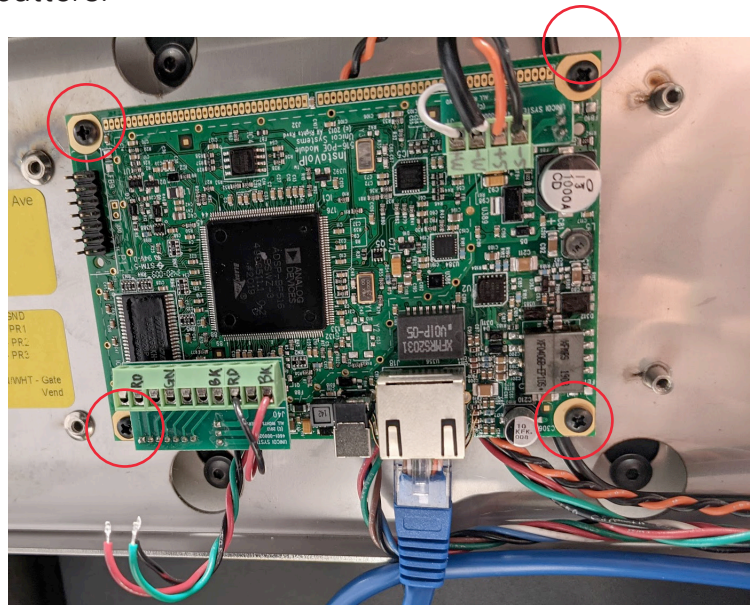
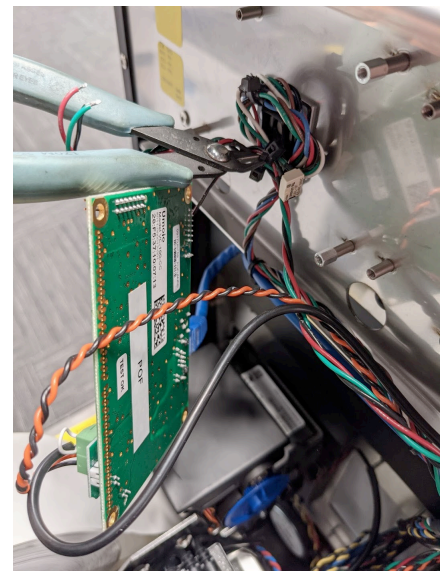

fig 1b
fig 1c
2. Additional anchor points may be located under intercom system. These can be reached by removing intercom mounting hardware (fig 1b). Remove any zipties under intercom hardware (fig 1c) with side cutters.